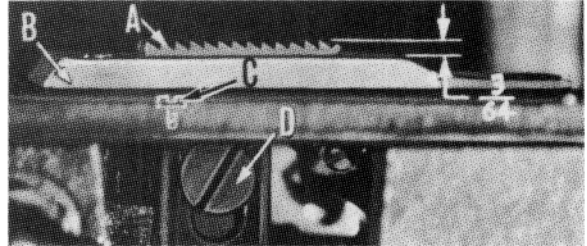

Fig. 9
For Styles 53100 A, B, C and D, set the feed dog (A, Fig. 9) in the throat plate (B) so there is equal clearance on all sides. See that the tips of the teeth are parallel with and 3/64 inch above the throat plate at high point of travel. Adjust the supporting screw (C), under the feed dog, to maintain this setting. Screw (D) is used to hold feed dog in position.